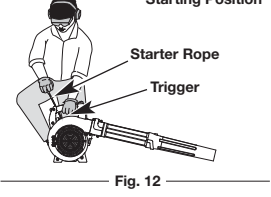

Fig. 12
WARNING: Avoid accidental starting. Make sure you are in the starting position when pulling the starter rope (Fig. 12). To avoid serious injury, the operator and unit must be in a stable position while starting. To avoid serious personal injury, make sure that the blower tube is locked in place.
4. **Do not squeeze the trigger.** Place the unit on a firm, flat surface. Crouch in the starting position and hold the unit firmly (Fig. 12).